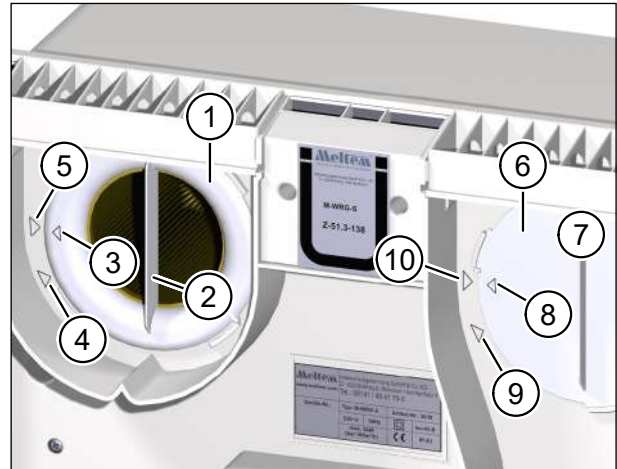

Fig. 5: Remove used air filters
- ▶ Turn the filter ring (item 1 in Fig. 5) using the hand grip (item 2 in Fig. 5) anti-clockwise until the arrow on the filter ring (item 3 in Fig. 5) lines up with the arrow at the removal position (item 4 in Fig. 5).
- ▶ Turn the filter cover (item 6 in Fig. 5) using the hand grip (item 7 in Fig. 5) anti-clockwise until the arrow on the filter cover (item 8 in Fig. 5) lines up with the arrow at the removal position (item 9 in Fig. 5).